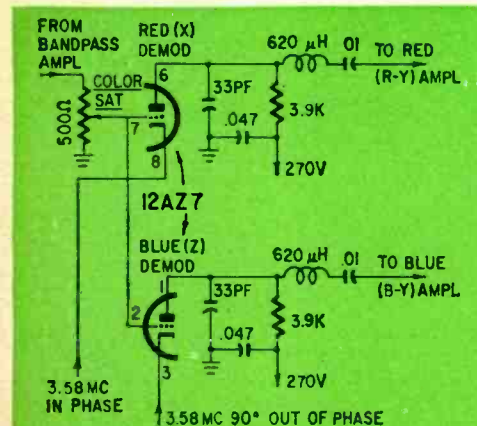

Fig. 5—Color demodulators work in quadrature, keyed by direct and 90°-shifted 3.58-mc voltage.
5. Color demodulators (Fig. 5). You'll find these called X and Z, I and Q, R and G, you name it—any combination of letters. They all do the same thing: separate the color information from the video signal. How? Phase detection. A good simile is the quadrature-detector circuit used in sound detectors with the 6DT6 or 6BN6.